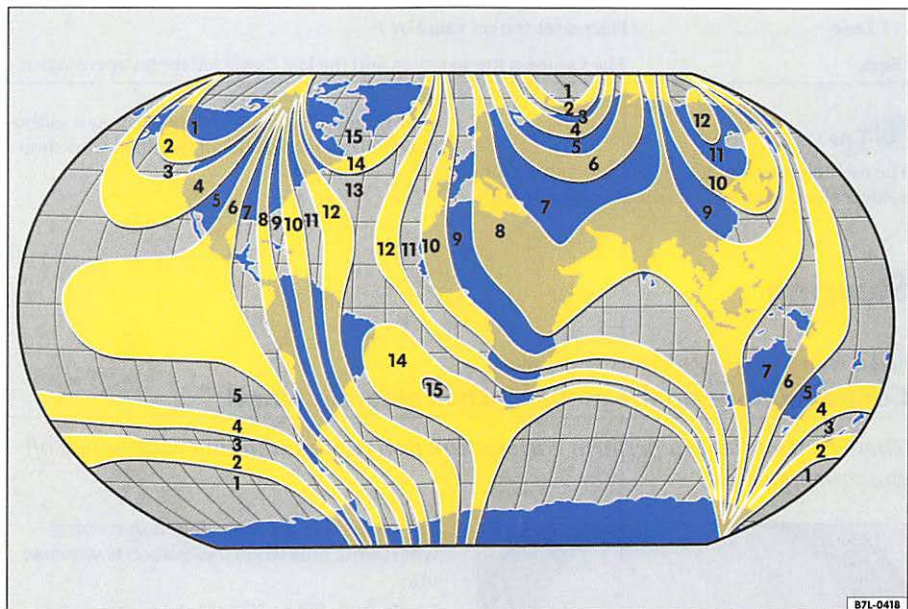

Fig. 20 World wide compass zone
- Find your current location and variance zone $\Rightarrow$ fig. 20.